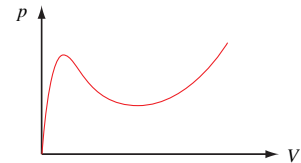

Figure 1.18: Qualitative sketch of the pressure-volume relation of a typical toy rubber balloon.
78. Use the qualitative sketch of the pressure-volume relation of a toy balloon (Fig. 1.18) to explain why the air can flow from a less inflated balloon to a more inflated one. (Remember that we would normally assume the more inflated balloon to have the higher pressure.) Is it possible for the air to go from the more inflated one to the less inflated one? (Fig. 1.3)